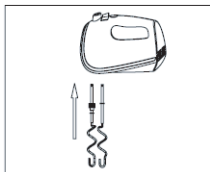

fig.1
- Insert beaters or dough hooks into the correct outlets and ensure the beaters or dough hooks securely lock in right position (Fig.1 & Fig.2).